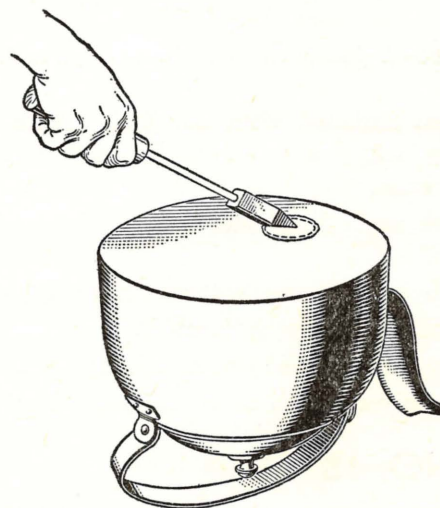

Fig. 98—The tinned surface of the patch is laid on the tinned hole and sweated in place with a hot soldering copper
6. Place the tinned side of the patch over the hole and sweat it in place with the hot soldering copper. The patch may be held in place with the end of a file while the hot soldering copper is held flat on the patch. When the solder between the patch and the utensil is melted, the copper should be removed so as to allow the solder to cool. The file, however, should be held on the patch until the solder hardens. (See Fig. 98.)